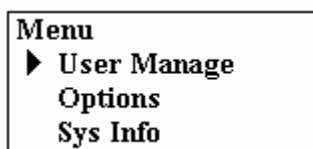
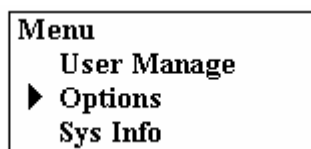
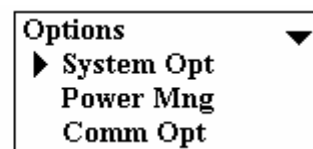

Figure 5
Figure 6
Figure 7
To start the setup process, press the [LV] (menu) key on the keypad and hold it down for 3 seconds. The top line of the display may read "Admin Affirm" (if no Admin users have been enrolled yet, you will not be prompted for Admin verification and will go directly to the main menu (Figure 5)). If "Admin Affirm" is prompted on the display, then either type your PIN (ID) number and touch the sensor or just touch the sensor for verification. The main menu will be displayed (Figure 5). Press the [Down arrow] key on the keypad until the arrow points to the Options selection (Figure 6). Press the [OK] key on the keypad and the following will prompt on the display (Figure 7).